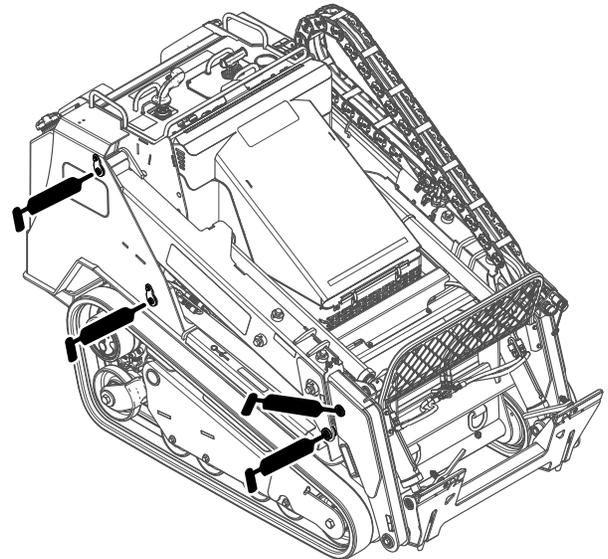
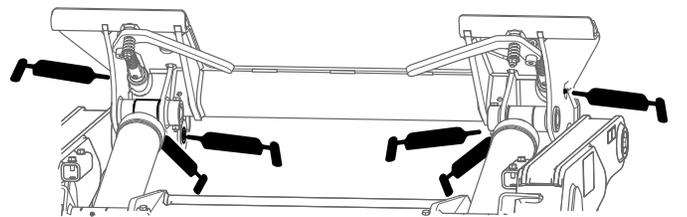
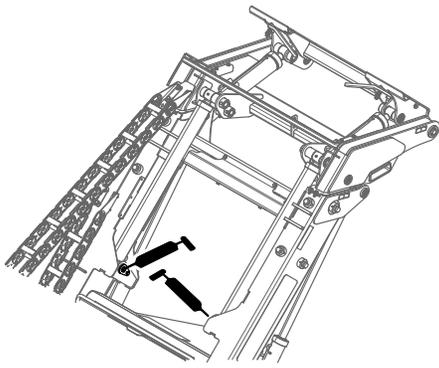

Figure 47
Figure 48
Figure 49
4. Connect a grease gun to each fitting (Figure 47, Figure 48, and Figure 49).
Note: Raise the loader arms before greasing the fittings in Figure 49.